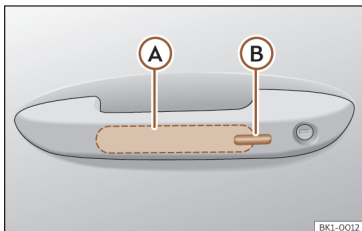

Fig. 72 Door handle: sensor surfaces.
>>> **Fig. 72**
- Touch the sensor surface **(B)** >>> **Fig. 72** on the outside of the door handle. All turn signals flash once.
- Within 5 seconds, touch the sensor on the outside of the door handle once >>> Fig. 72 . Do not grip the handle while doing so. This temporarily deactivates the Keyless Access system.